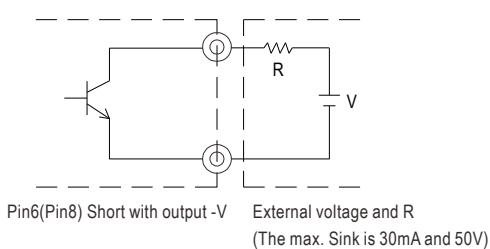

Fig 2.2 Internal circuit of AC OK (Battery Low), via TTL open collector
(1) Alarm signal is sent out through "AC OK" & "Battery Low" pins.(TTL open collector output is provided for standard model, and relay contact output is provided as optional model.)
(2) An external voltage source is required for this function. The maximum applied voltage is 50V and the maximum sink current is 30mA. Please refer to Fig 2.2.
(3) Table2.1 explains the alarm function built in the power supply